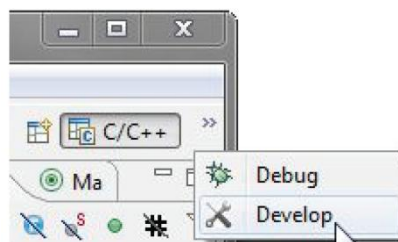

Fig 4. Perspective selection
**Switch between perspectives:** Using the Perspective icons in the top right of the LPCXpresso IDE window, as in Figure 4